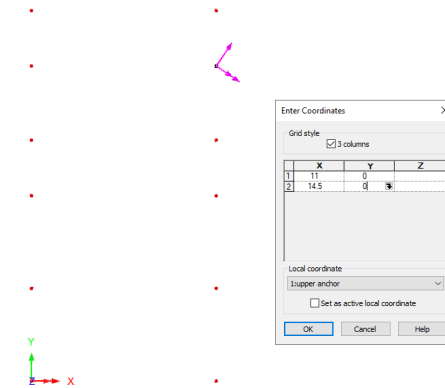

Figure 5: Input of coordinates of upper anchor
- Select **Geometry > Point > By Coords...** Click on the dropdown containing **Global Coordinates** and select **upper anchor**. Enter the local coordinates **(11,0)** and **(14.5,0)** and click **OK** (figure 5).